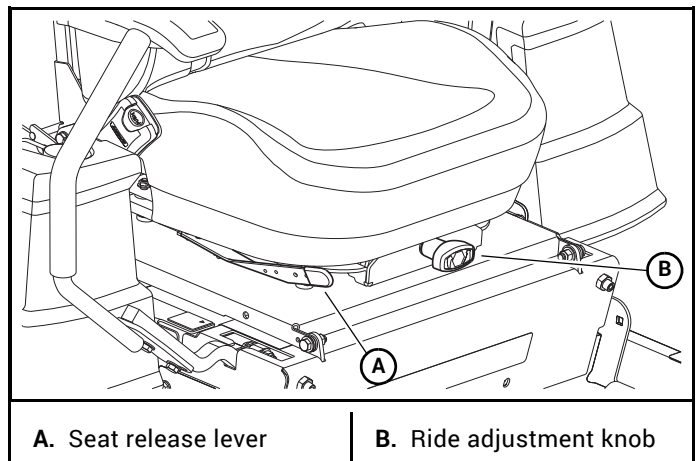

Figure 4-24
1. Use the seat release lever to slide the seat forward and rearward. Figure 4-24
2. Adjust the seat firmness by turning the ride adjustment knob. Figure 4-24